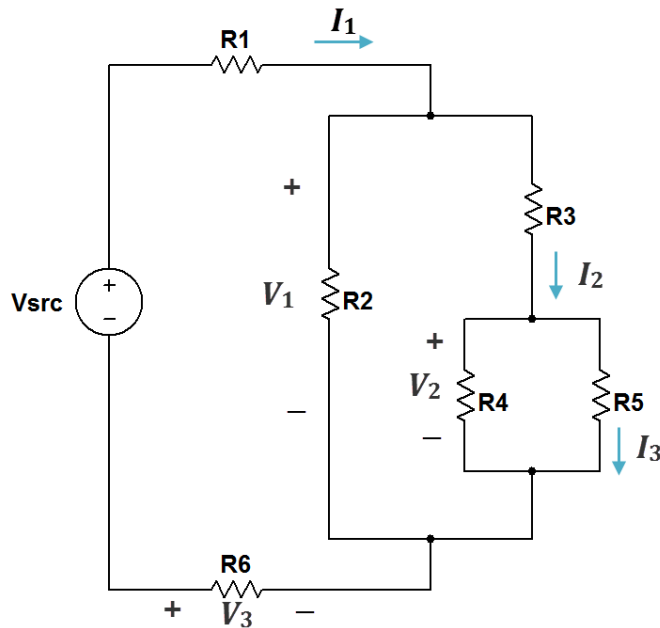

Figure 2.3: Circuit for Problem 2.3
Enter the circuit of Figure 2.3 into NI Multisim. Use measurement probes to measure each current; use voltmeter indicators to measure each voltage.
Build the circuit of Figure 2.3 on the preceding page. Use the myDAQ DMM (digital multimeter) as a voltmeter to measure each of the three voltages; use the DMM as an ammeter to measure each of the three currents.
- Place the resistors to match the resistor orientations shown in Figure 2.3 on the previous page.